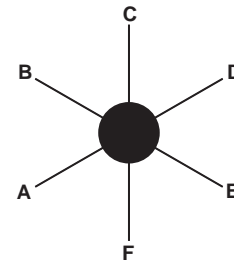

Figure 4. Rate Selector Switch.
**Charge Rate Selector** switch is a multiposition rotary switch in most of the chargers. The available settings for each charger are described in Table 1 using Figure 4 to identify the switch positions.